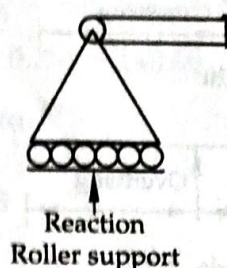

Fig. 37
2. Roller supported beams: In this case one of the end of the beam is supported on rollers in order to permit free movement in horizontal direction. Roller reaction is vertical as shown in Fig. 37.